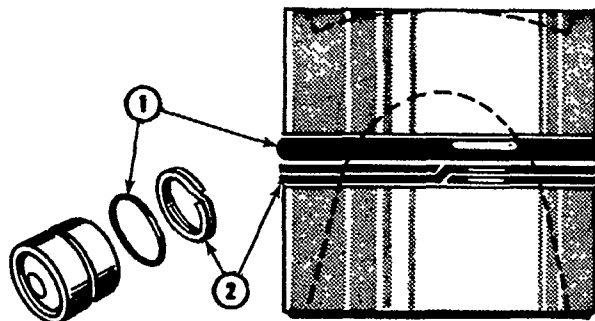

Figure 29
13. The lift piston incorporates an O-ring and either a nylon or a leather back-up seal. The O-ring should be soaked in hydraulic oil for a period of 5 minutes prior to installation. If a new nylon back-up ring is to be installed, dip it in hydraulic oil and install it with the chamfered ends of the ring located as shown in Figure 29. If a new leather seal is to be installed, soak it in water for a maximum time of two minutes prior to the installation of the piston. Install the seal with the flesh (rough) side toward the piston. In either case, position the O-ring nearest the closed end of the piston as shown in Figure 29.